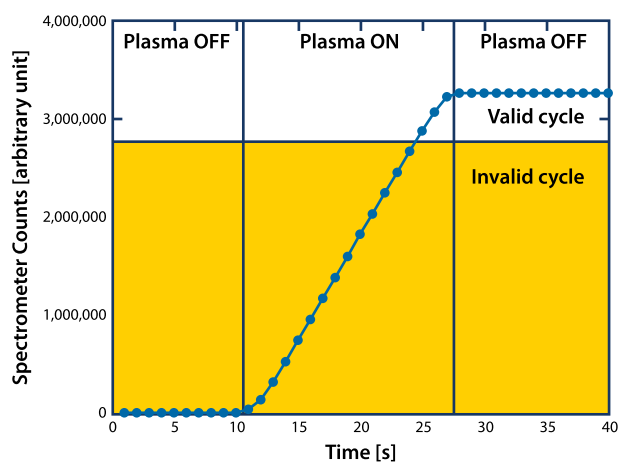

Figure 2 Cycle Validity
In order to generate a dedicated number to determine cycle validity, the spectrometer spanned a wavelength range from 200 nm upward across the entire cycle time, resulting in a number equivalent to a “UV” or “plasma” dose. This was then used in conjunction with a kill efficacy study to determine the 4-log reduction validity limit of a gas plasma cycle (2). Figure 2 shows a typical cycle run with a continuously monitored gas plasma dose and an indicated validity limit.